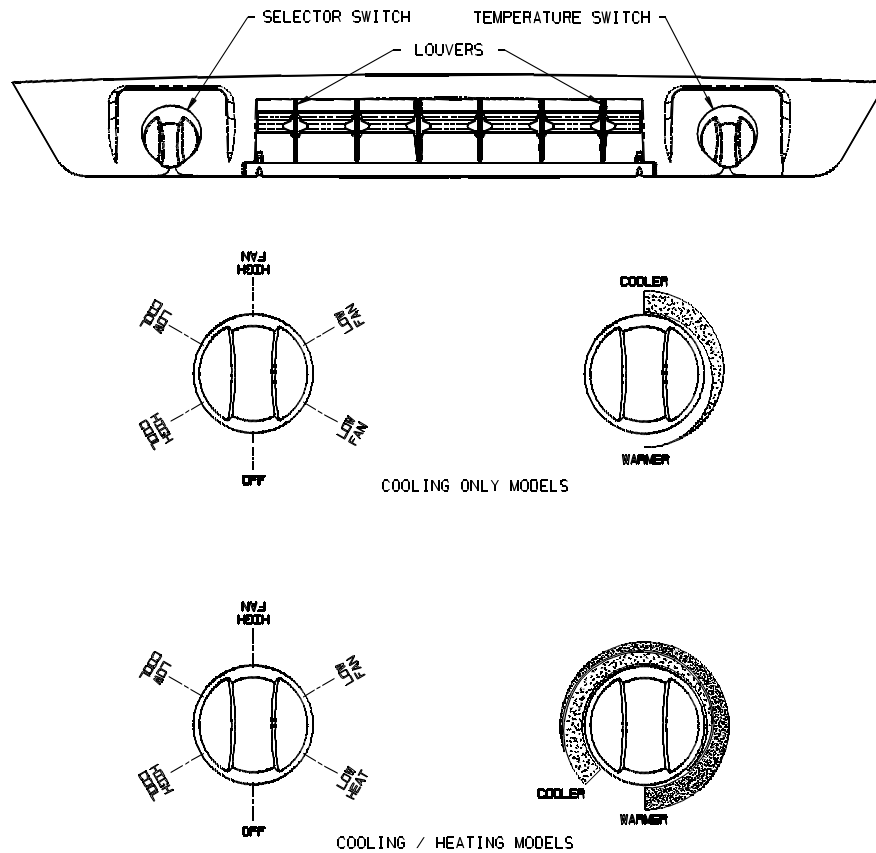

FIGURE 1
A. The Selector Switch - The selector switch determines which mode of operation the air conditioner will be in. By rotating the selector switch, the operator can obtain any system function desired. System functions vary depending upon options of both the roof top unit and ceiling assembly. Figure 1 shows selector switch location and lists all available functions by model.
For “Heat/Cool” models, the thermostat also controls the “ON” and “OFF” temperature settings of the heater assembly. See Figure 1.
- I. For Cooling (Refer to Figure 1, page 3).**
IV. For Heating (“Elect-A-Heat” Ceiling Assembly Model Only) Refer To Figure 1, page 3).
V. For Air Circulation Only (Refer To Figure 1, page 3).